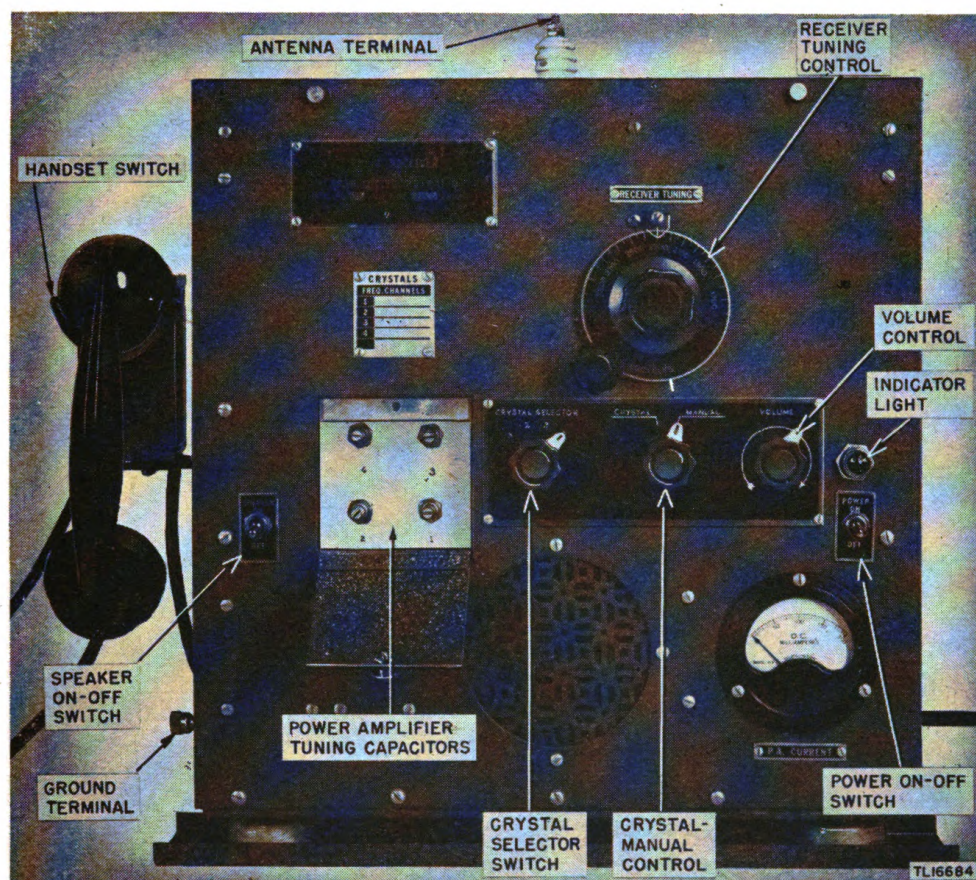

Figure 7. Radio Receiver and Transmitter BC-441-(*)—front panel view showing location of controls.
The function of the various controls, jacks, and terminals which are mounted on the front panel of Radio Receiver and Transmitter BC-441-(*) (fig. 7), are briefly described below:
b. CRYSTAL CONTROL. Make sure that the crystals are in their sockets (par. 15). Turn the CRYSTAL-MANUAL switch to CRYSTAL and the CRYSTAL SELECTOR switch to the desired channel, indicated on the chart on the front panel (fig. 7). Turn the RECEIVER TUNING dial to the corresponding frequency. Exact tuning will be indicated by a maximum of background noise or signal and will be most noticeable on weak signals. When the signal is strong, turning the RECEIVER TUNING dial will have little effect on reception. Lift the handset from its mounting; the signal will now be heard in the handset receiver.